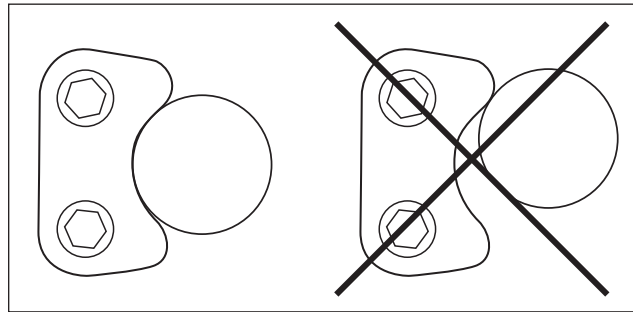

Figure 27
15. Carefully close the tailgate. If necessary, adjust the saddle block slightly up or down to align it with the horizontal tube. This will be set in final position later once wheel/tire assembly is installed, but it needs to align well enough to close in the meantime (fig. 27).